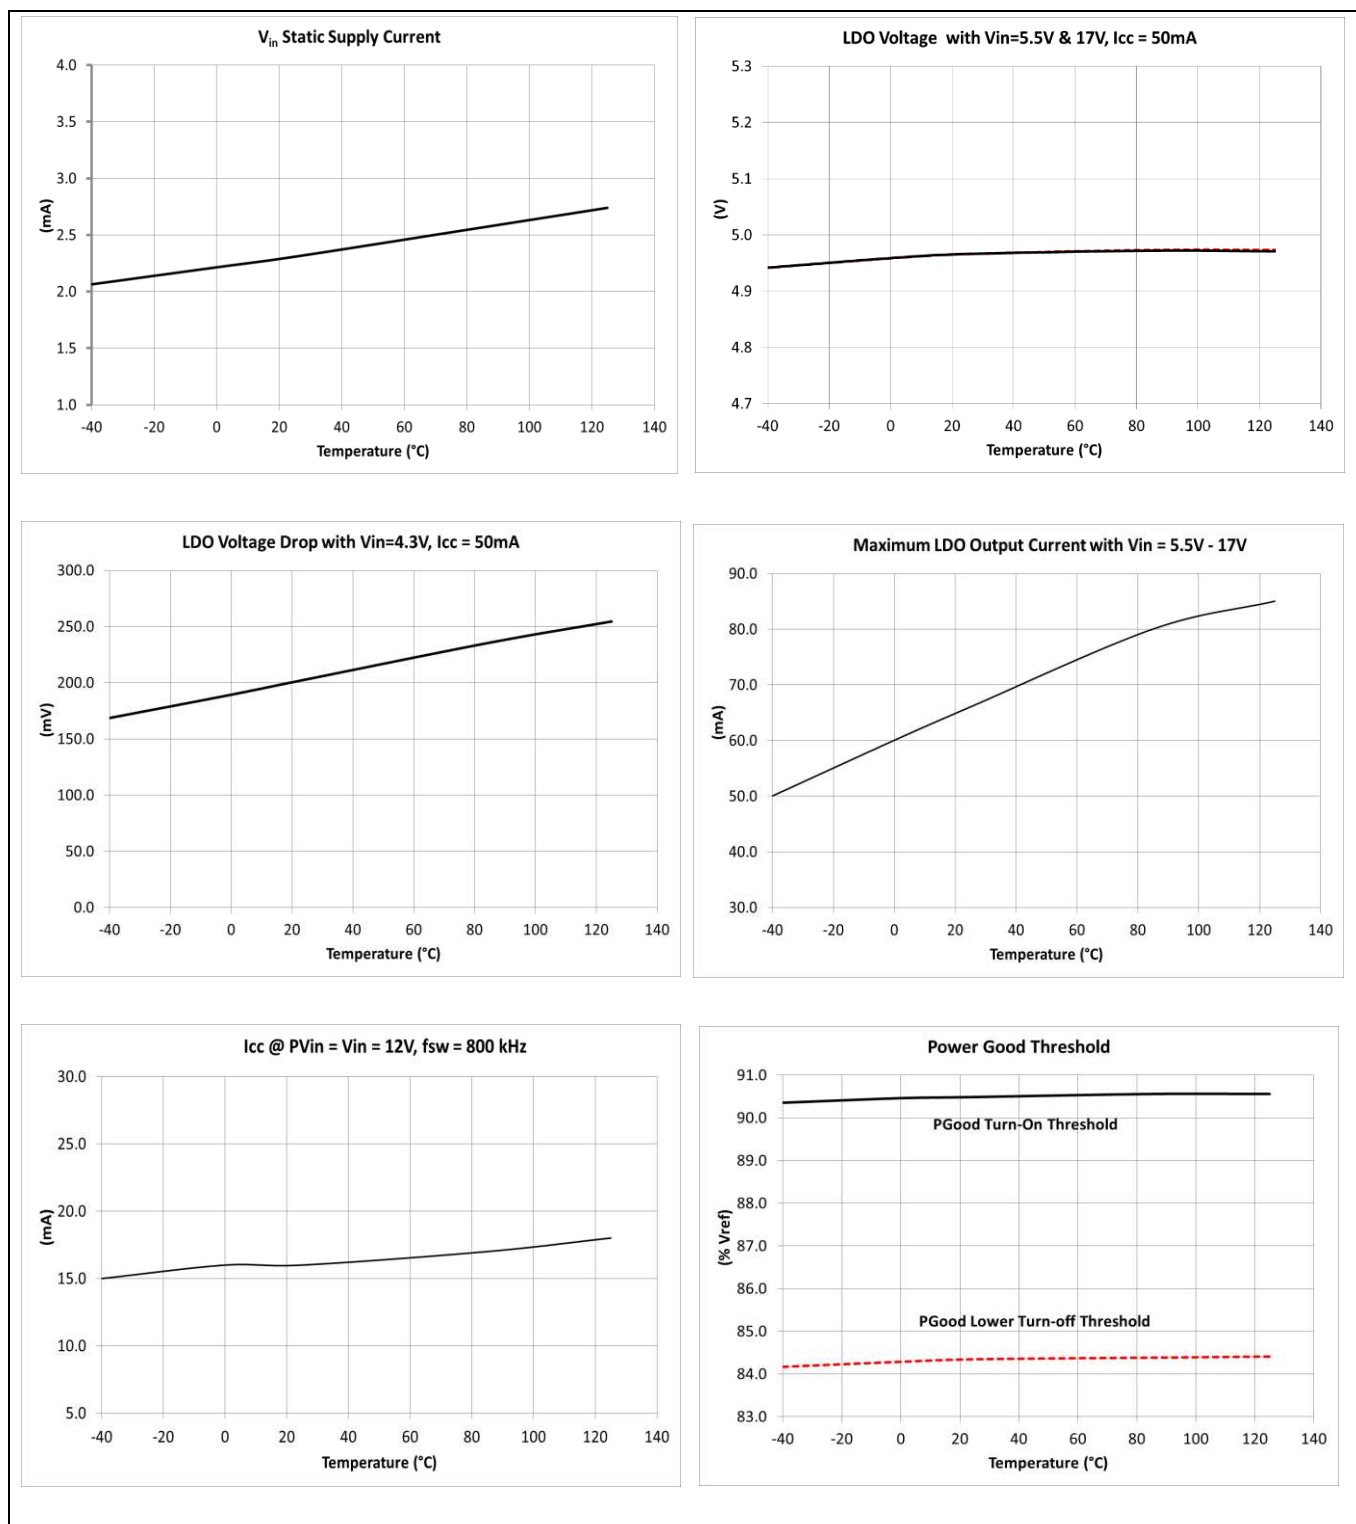

Figure 6 Typical operating characteristics (set 1 of 2)
10. The maximum LDO output current must be limited within 50 mA for operations requiring full operating temperature range of  $-40\text{ °C} \leq T_J \leq 125\text{ °C}$ . Figure 6 shows the maximum LDO output current capability over junction temperature. Thermal de-rating may be needed at an elevated ambient temperature to ensure the junction temperature within the recommended operating range.